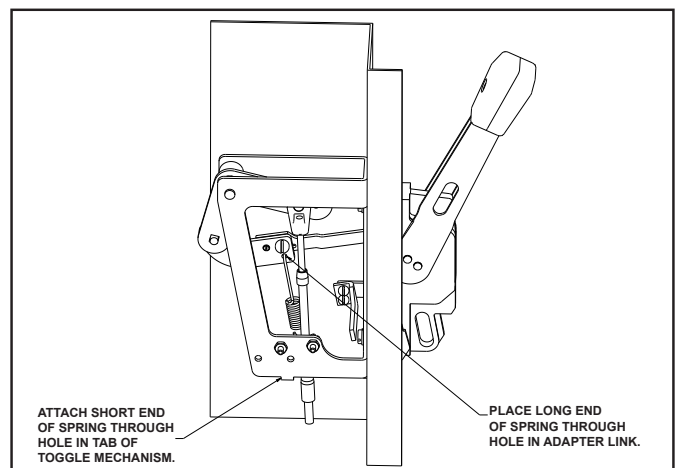

Fig. 1-6 Assembly of Spring to Toggle Mechanism.
6. Connect the long end of the spring through hole in adapter link. Hook the shorter end of the spring into the tab on the lower portion of the toggle mechanism. See Fig 1-6.